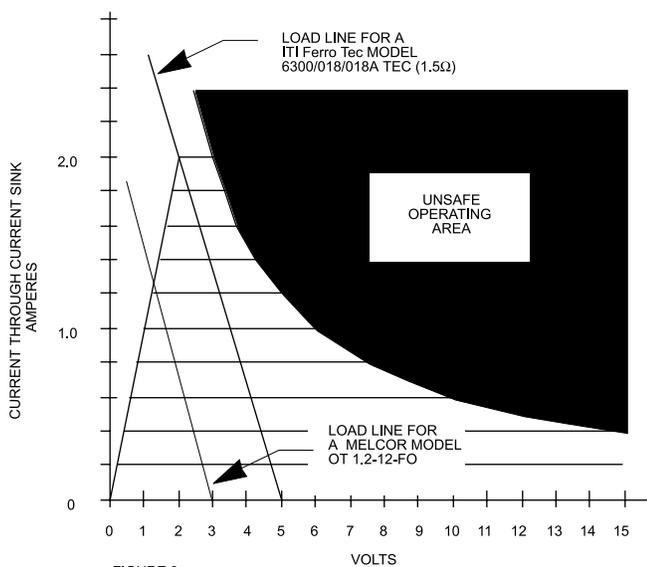

FIGURE 3
**Figure 3** illustrates the locus of operating current and voltage for two different TECs.